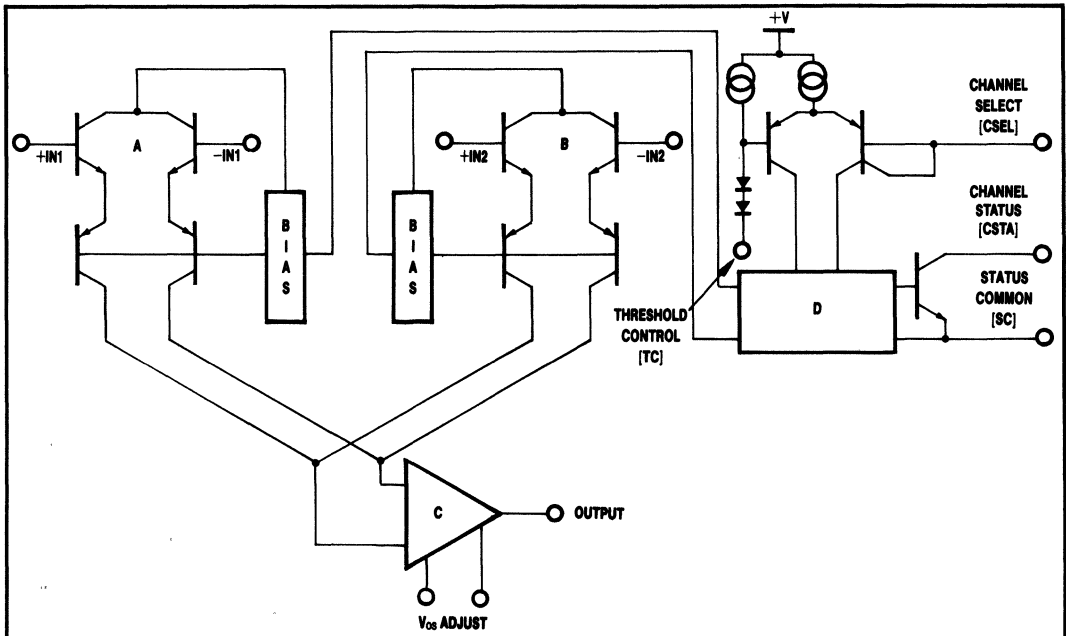

FIGURE 1. OPA 201 Simplified Schematic.
A simplified schematic of the OPA201 Swop Amp is shown in Figure 1. The circuit has four main parts: (A) input stage 1, (B) input stage 2, (C) active load and output amplifier, and (D) channel select circuit. The two precision differential input stages are identical, with offset and drift laser-trimmed for very-tight matching. The input stages share a balanced, high-precision active load and external offset adjust pins, so offset trim affects both channels (see "Using the Swop Amp" section for independent trim techniques). The input stages also share a gain stage and complementary output stage. The biasing circuits for the two input stages are well matched, so the characteristics of the two amplifiers are very nearly identical.